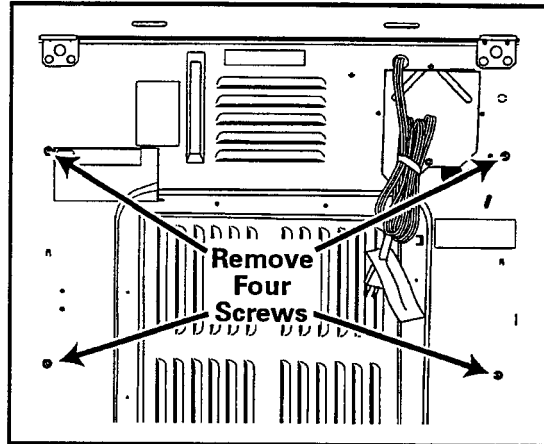

Figure 6-11
7. From back of dryer, remove four screws holding tumbler back assembly and remove assembly, (*See Figure 6-11*).